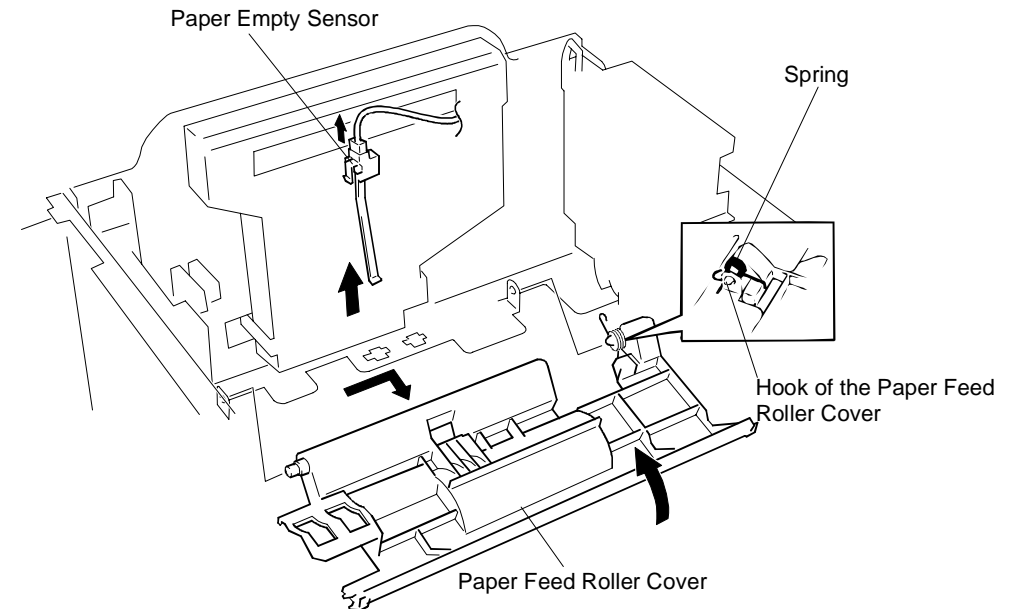

Figure 4-6. Paper Empty Sensor Removal
*When installing the paper feed roller cover, install the spring as it is shown in figure4-6.*